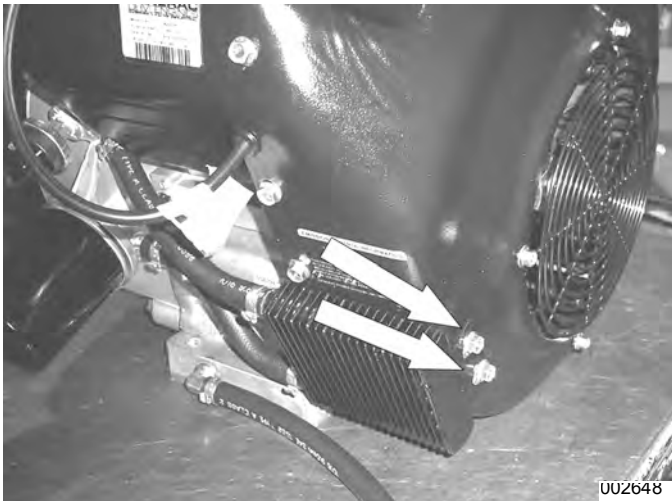
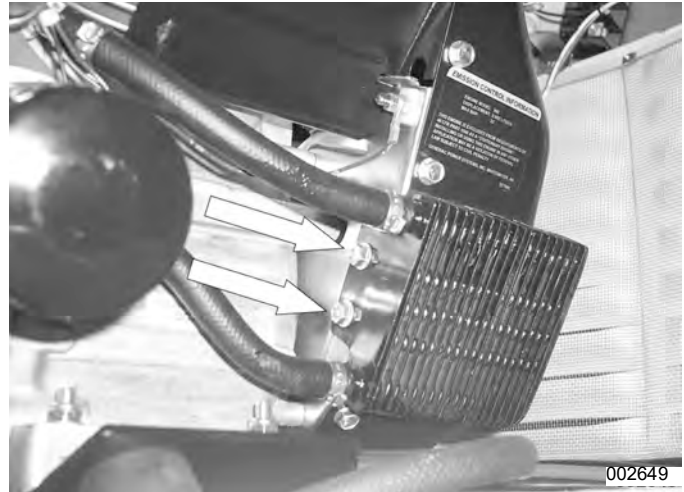

Figure 5-16.
Figure 5-17.
11. **Unbolt Oil Cooler:** See Figure 5-16. Use a 10 mm socket to remove the two 10 mm bolts from the front of the oil cooler. See Figure 5-17. Remove the two 10 mm bolts from the rear of the oil cooler.